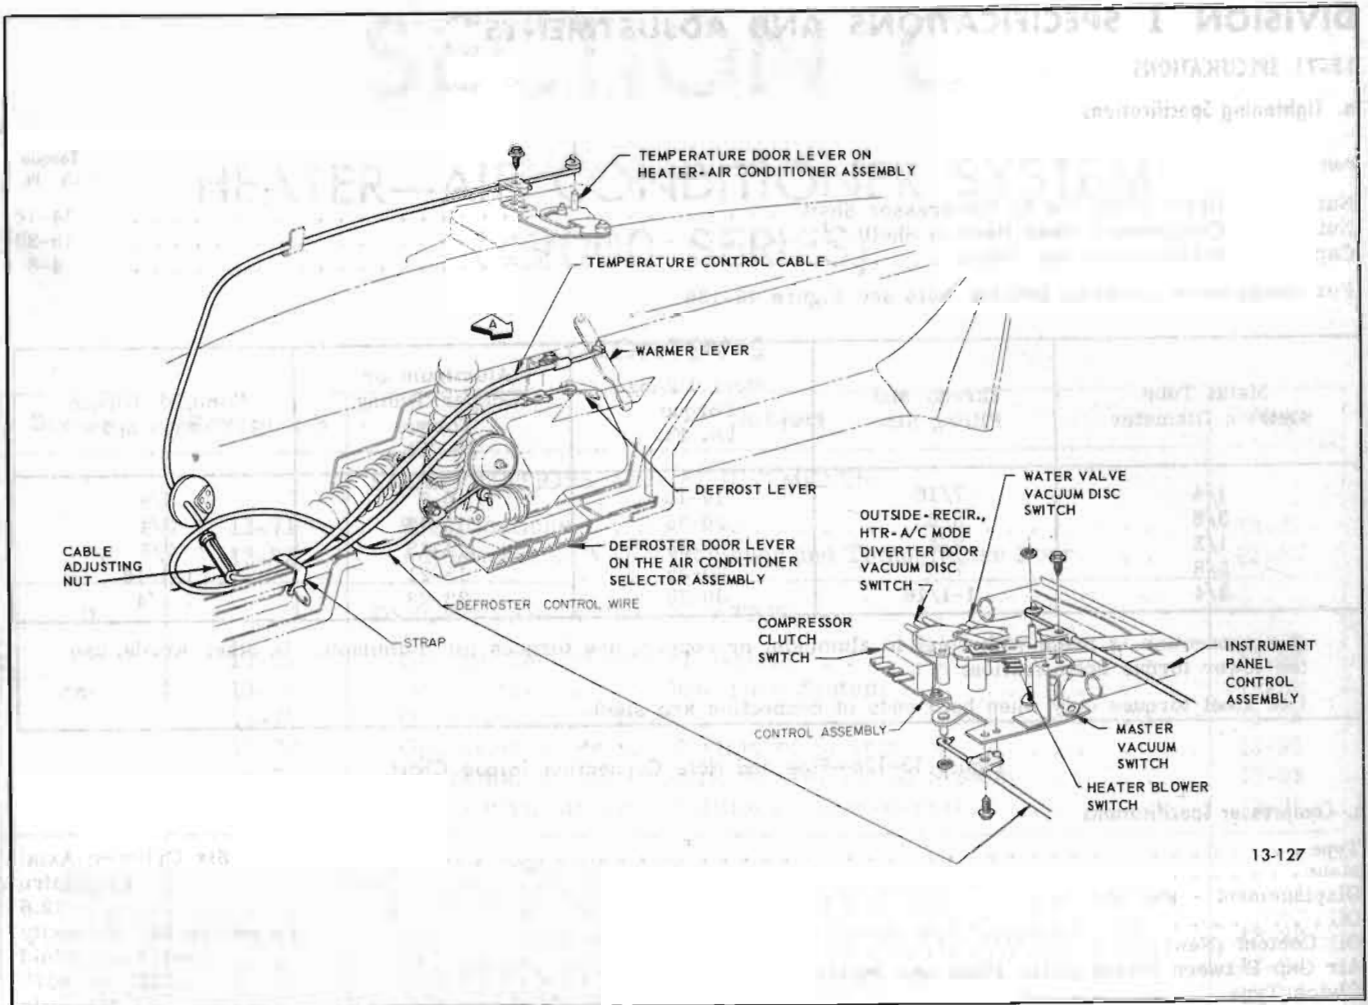

Figure 13-127—Control Cable Installation (49000 Series)
1. The temperature control wire adjusting nut may be reached from under the instrument panel in the area between the steering column and the parking brake bracket. See Figure 13-127.
The Climate control lever operates two switches: the compressor clutch electrical switch (see Figure 13-134) and the outside-recirculated, heater-A/C mode, and diverter door vacuum disc switch (see Figure 13-127).
This lever operates the water valve vacuum disc switch and the temperature door cable. Positioning of the WARMER lever fully to the left closes the vacuum disc switch. The switch is fully opened when the lever is moved more than one inch from extreme left. This allows coolant to begin flowing through the heater core. The temperature control cable attached to this lever progressively opens the temperature door exposing more of the heater core to the air stream as the lever is moved to the right. See Figure 13-127.
The DEFROST lever controls the positioning of the defroster door (see Figure 13-127), by a control cable. Movement of the door is proportionate with the travel of the lever.